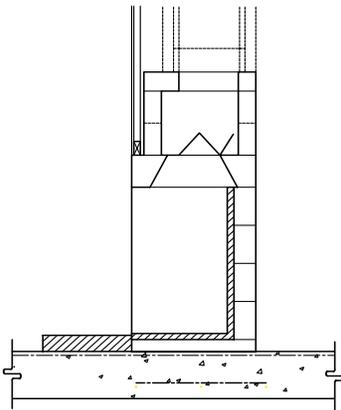

FIGURE 43
2. Slab-on-grade foundations, thickened and reinforced: for additional load carrying. (Figure 43)